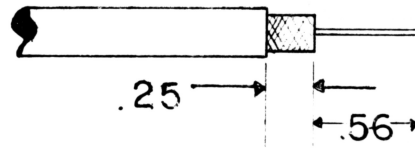

Figure 1
- 1) Trim the cable as shown in figure 1. Take care not to nick the center conductor or the outer shield.